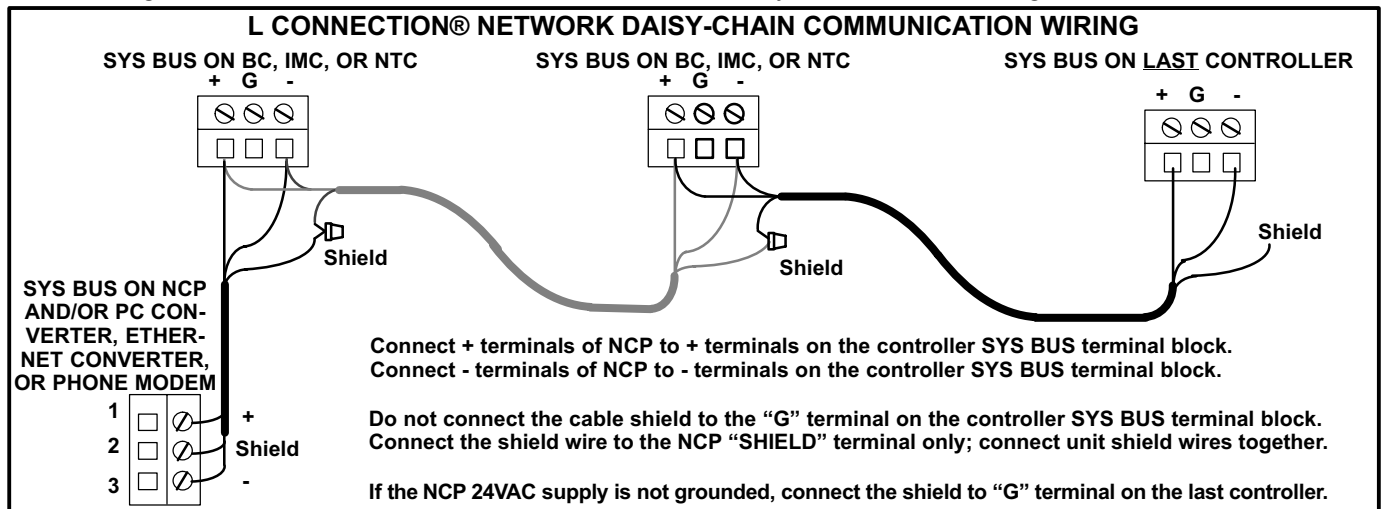

FIGURE 66
The Network Thermostat Control (NTC) is an L Connection direct digital controller used on units which are not equipped with an IMC. The Building Controller (BC) is used to control building functions such as lights and signs. Use L Connection specific network cable and daisy chain as shown in figure 66.